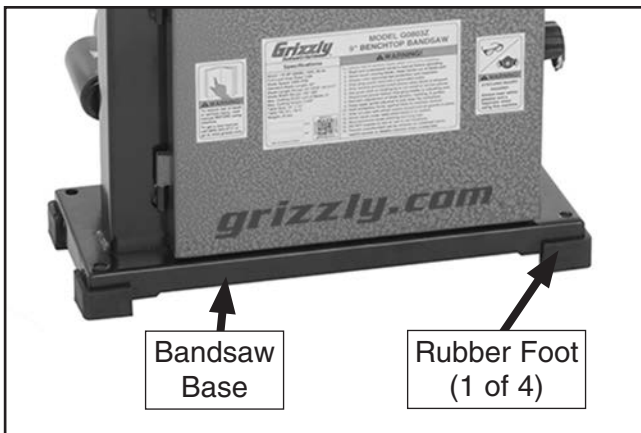

Figure 11. Rubber feet attached to base.
1. Attach (4) rubber feet to bandsaw base (see **Figure 11**). Rubber feet simply press onto corners of base.